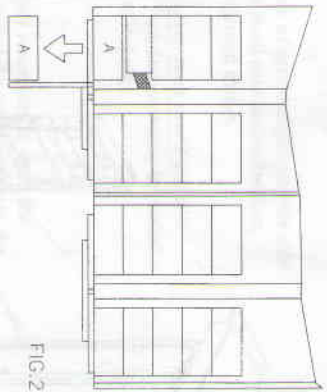

FIG. 2
Motor assy (4) open the dividing doors (5), by holding products inside the column, apart from the last one (A) (figure 2).